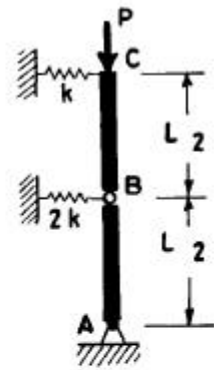

fig. 5
6. The rigid bar segments of equal length $L/2$ are connected at the joint and at the bottom by frictionless hinges as shown in Fig. 5. The bars are held in vertical position by two springs. Determine the critical load for the system.